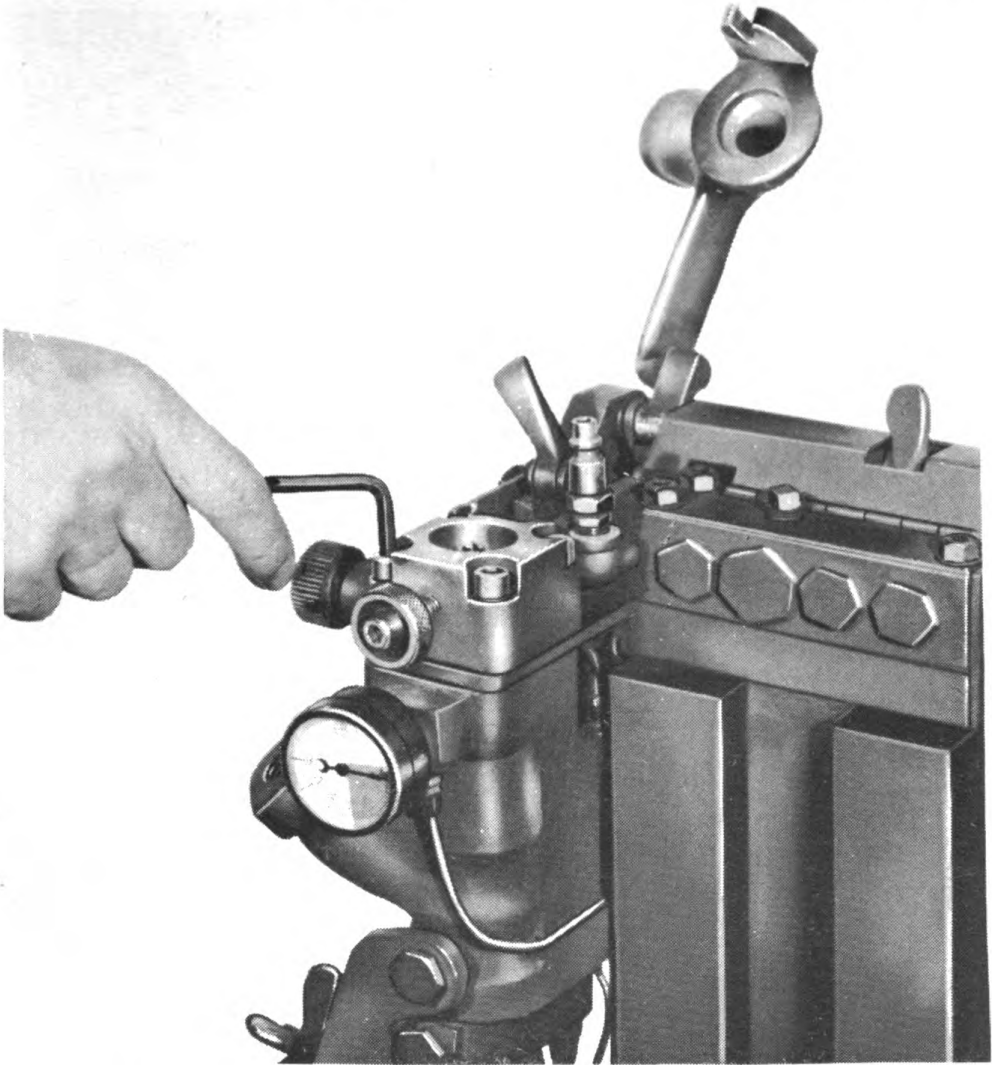

Fig. 93. Removing screws from bottom of air cylinder.
- (1) Remove gasoline housing assembly (par. 94b).
- (2) Disconnect the tube nuts on the three tubes leading from the distributor plate to the side of the valve body.
- (3) Disconnect tube nut joining elbow on needle valve.
- (4) Remove four socket head screws securing discharge valve assembly to support (fig. 93). This support (a above) is part of the distributor plate.